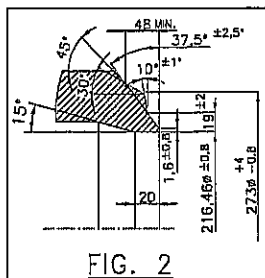

FIG. 2
- *Figure 2* ► it represents butt weld end.